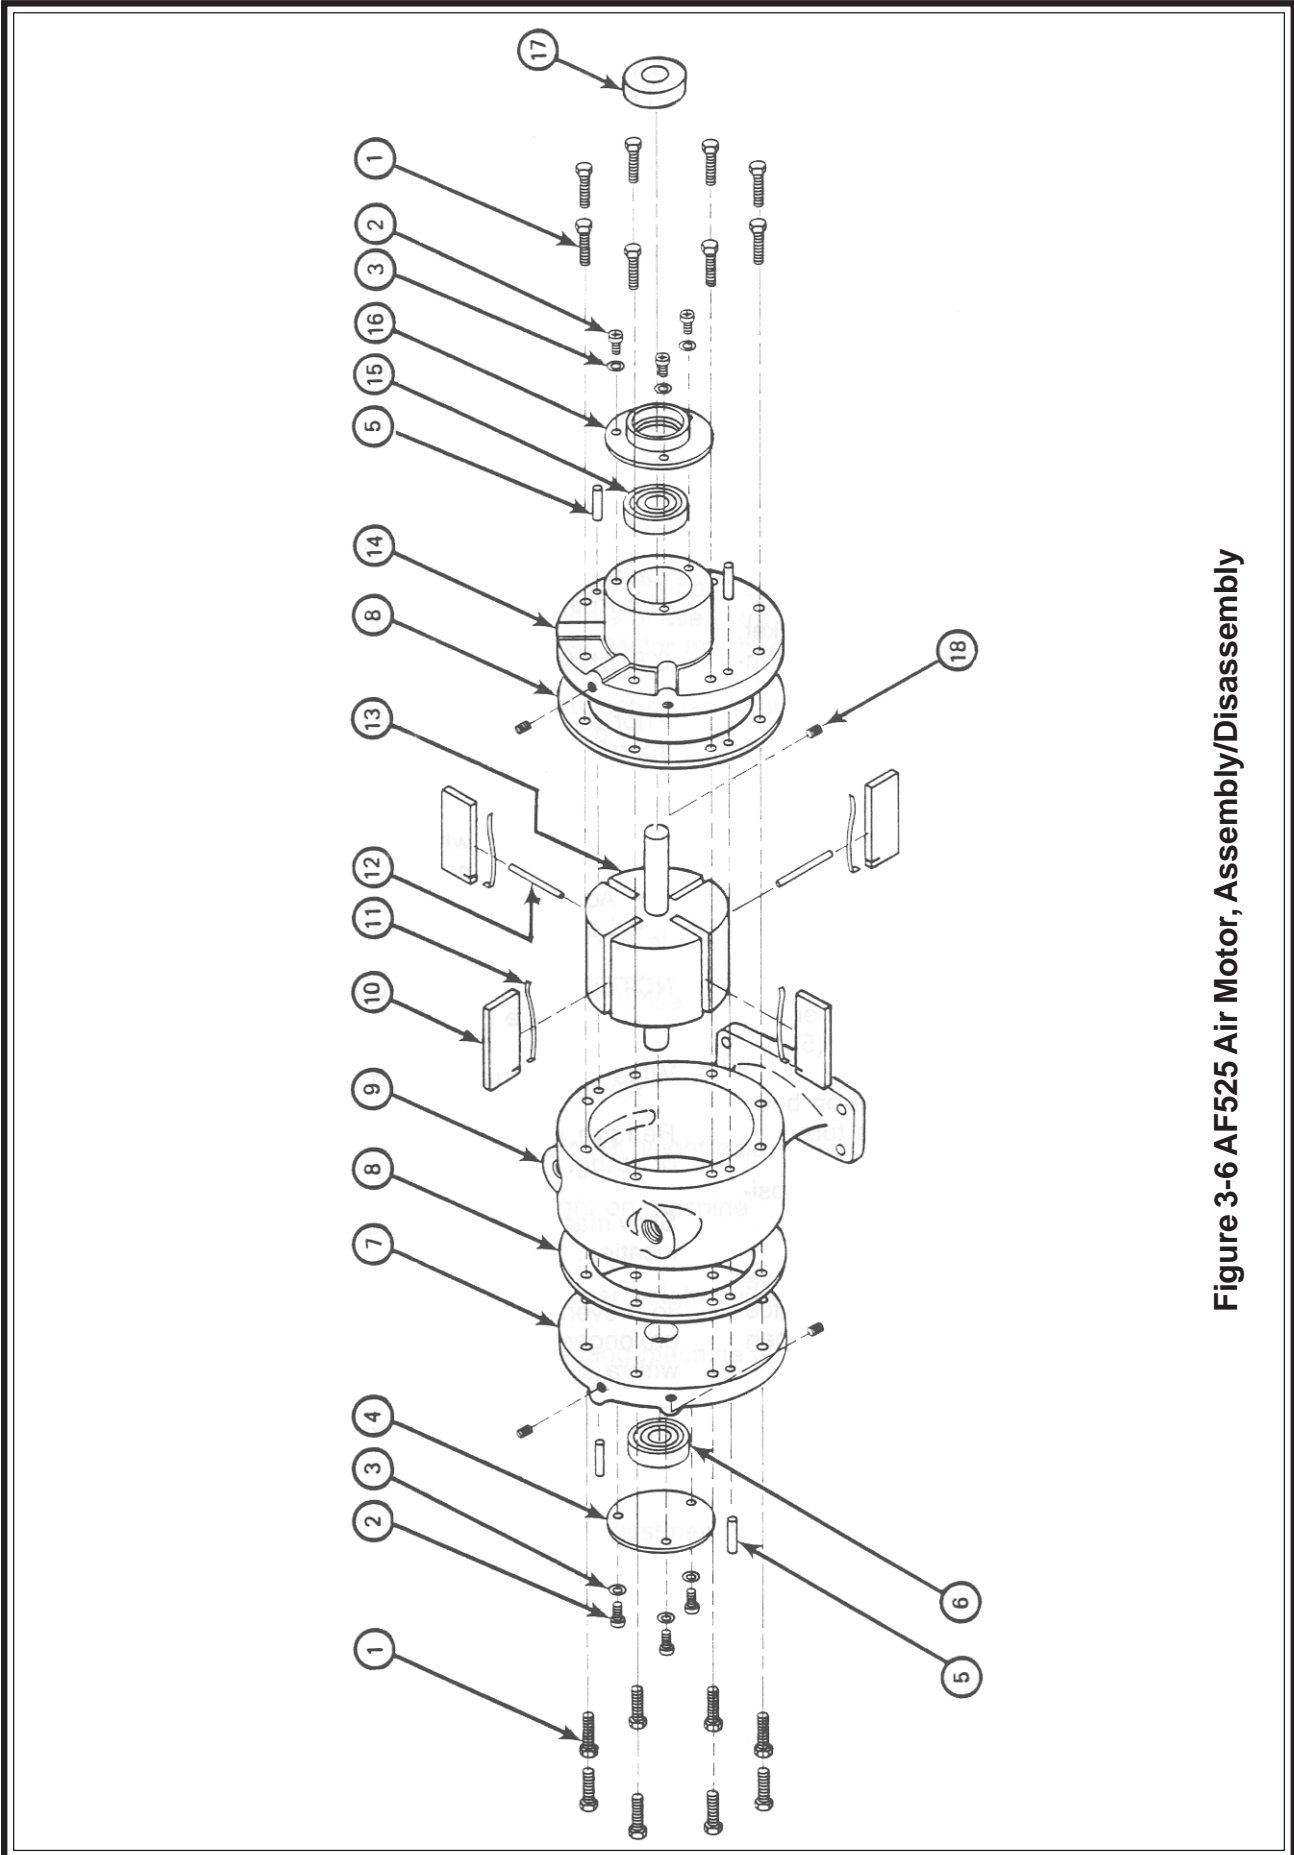

Figure 3-6 AF525 Air Motor, Assembly/Disassembly
3.2.6 Disassembly of AF525 Air Motor (Figure 3-6)
NOTE: Numbers in parenthesis correspond with those on exploded view drawing, Figure 3-6 and Chapter 4, Figure 4-2.1.
3.2.7 Assembly of AF525 Air Motor (Figure 3-6)